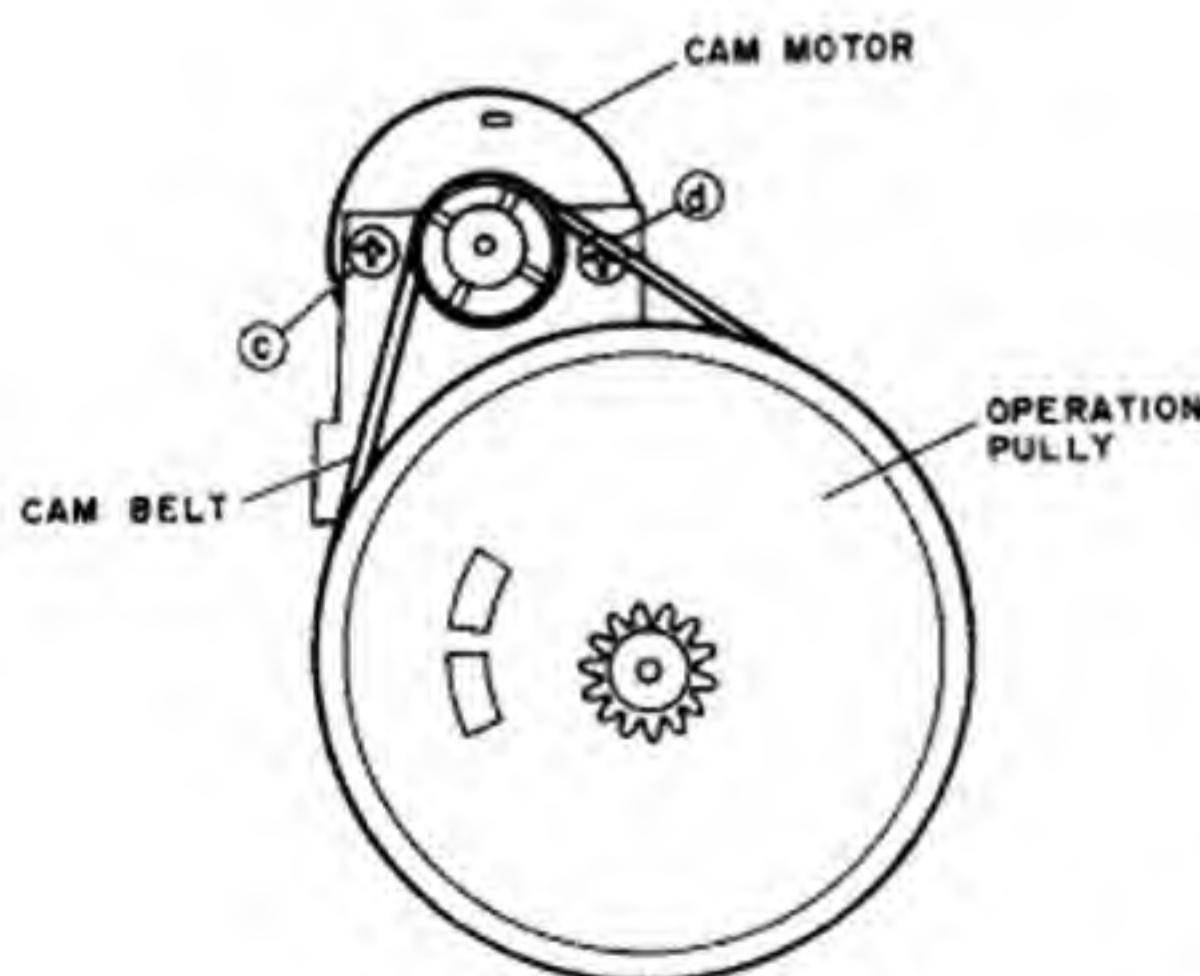

Fig. 4-8
- 5) Remove cam motor securing screws **c** and **d**. (See Fig. 4-8.)